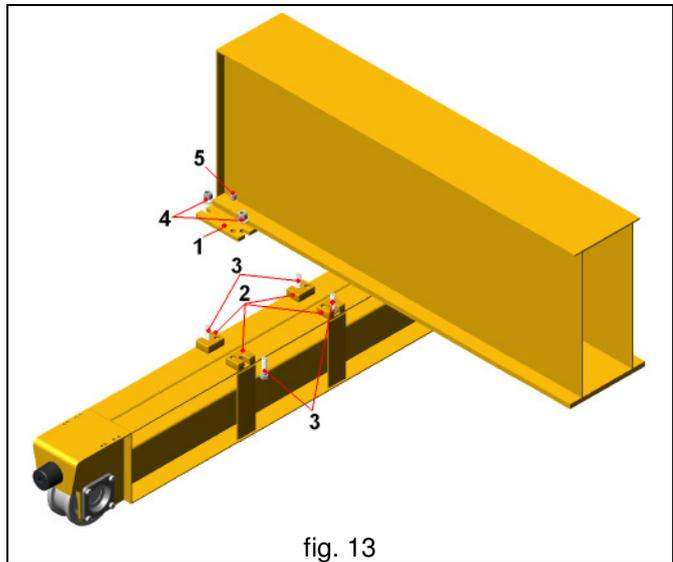

fig. 13
- **A = Beam connection in “supported” connection**(fig. 13)
1. Set the girder alongside the beam, allowing the slots on the cross-plate (1) to match those on the blocks (2);
2. Insert the screws (3) into the support blocks (2);
3. Screw on and set the nuts (4) without tightening them, to allow the insertion of the centring pins (5);